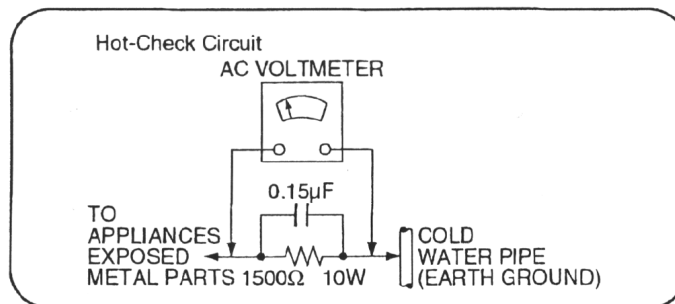

Fig. 1
### 1.1.2. LEAKAGE CURRENT HOT CHECK (See Figure 1.)
2. Connect a  $1.5k\Omega$ , 10 watts resistor, in parallel with a  $0.15\mu\text{F}$  capacitors, between each exposed metallic part on the set and a good earth ground such as a water pipe, as shown in Figure 1.